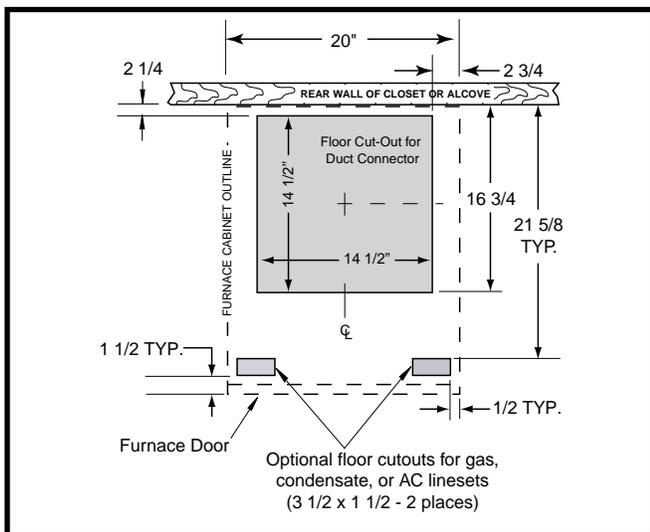
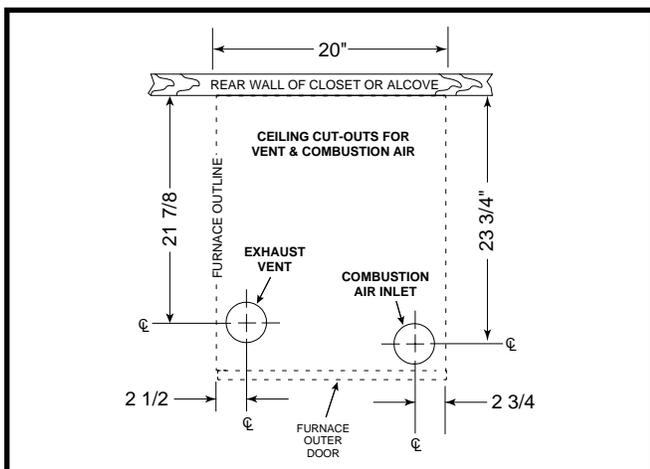

Figure 9. Floor Cutout Dimensions
Figure 10. Ceiling Cut-Out Dimensions
IMPORTANT NOTE: Cut-outs in the floor, must be carefully located to avoid misalignment of the furnace. To locate standard ducts, see Figure 9. For round ducts, see Figure 10.
1. Measure from the rear wall or alcove and mark the centerline of the cut-out on the floor. Using the centerline as a starting point, draw the rest of the duct cut-out to the dimensions shown in Figure 9.
6. Measure and drill gas hole and cut out for cooling coil (if applicable). See Figures 9 or 10.
IMPORTANT NOTE: Cut-outs in the ceiling and roof must be carefully located to avoid misalignment of the furnace, combustion air piping, and vent piping. See Figure 9.
2. Using the centerlines as a starting point, draw the rest of the cut-outs to the dimensions shown in Figure 10.